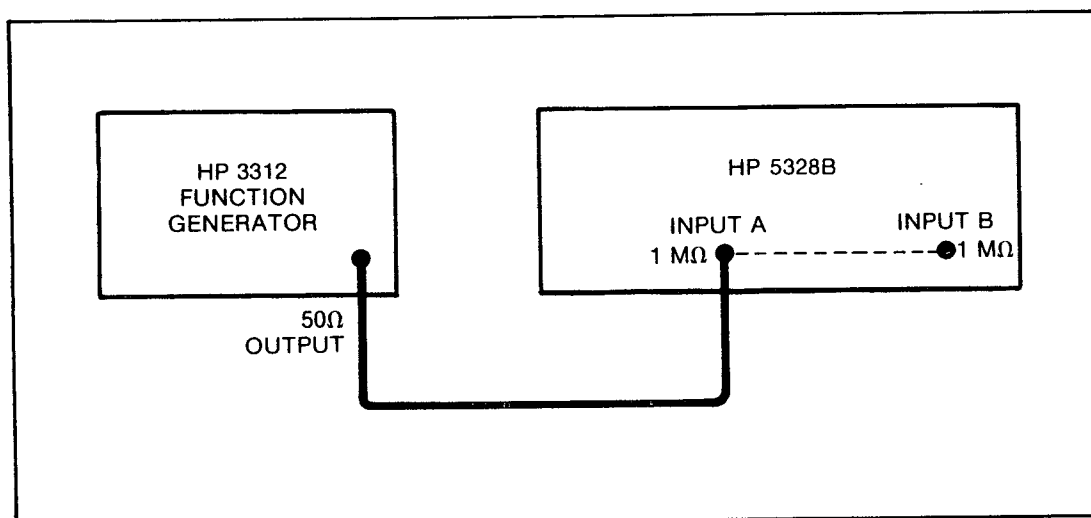

Figure 4-12. Time Interval Test Setup, 10 MHz at 50 mV rms
- a. Set up equipment for this test as shown in Figure 4-12.